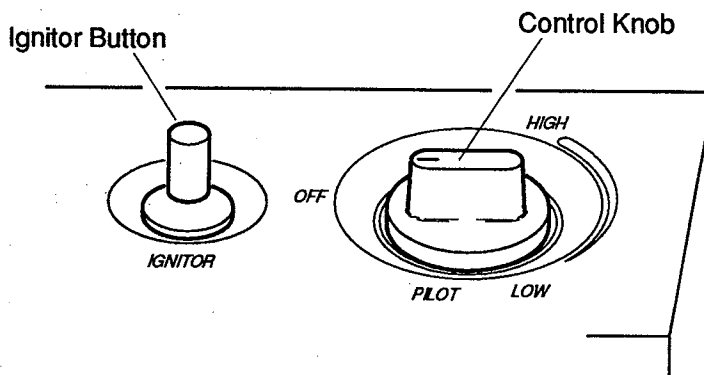

Figure 16 - Control Knob In The OFF Position
4. Wait five (5) minutes to clear out any gas. If you then smell gas, STOP! Follow "B" in the safety information at the top of page 16. If you don't smell gas, go to next step.
5. Press in control knob and turn counterclockwise  to the PILOT position. Keep control knob pressed in for five (5) seconds (see Figure 16).